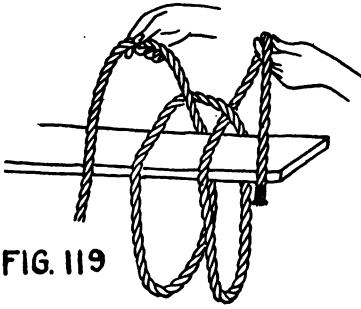
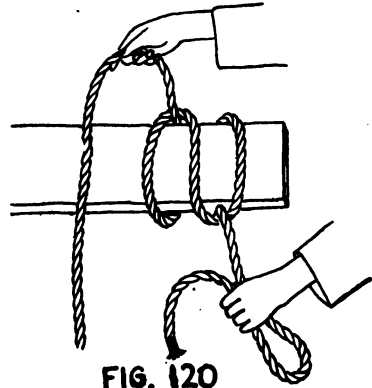

FIG. 119
FIG. 120
**Scaffold Hitch.** A very simple but satisfactory form for fastening scaffolds may be made by slightly modifying the clove hitch. Make a clove hitch of ample size so that when it is placed over the end of the scaffold the ends swing freely below it, as in fig. 119. The ropes are then tightened by being pulled in opposite directions to the end of the plank, as shown in fig. 120. Turn the plank over, draw the ropes up and fasten the short end to the standing part by a bowline knot (fig. 121). A *scaf-*